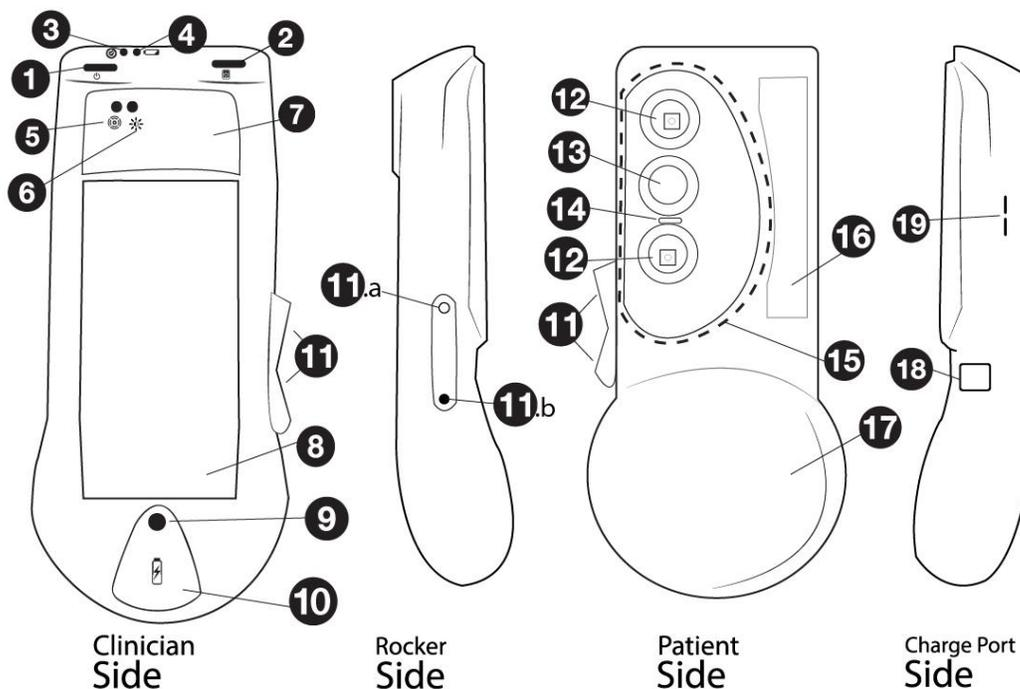

Figure 2: Clinician side, side views and Patient side of MolecuLight *i:X* Imaging Device
Caution Do not point the laser (from the Range Finder sensor) into eyes (Figure 2, item 14).
Caution Keep the Illumination Zone clean and avoid covering the Violet Wavelength LEDs and camera sensor window with your fingers, as this may affect illumination and image quality (see Figure 2, item 15).